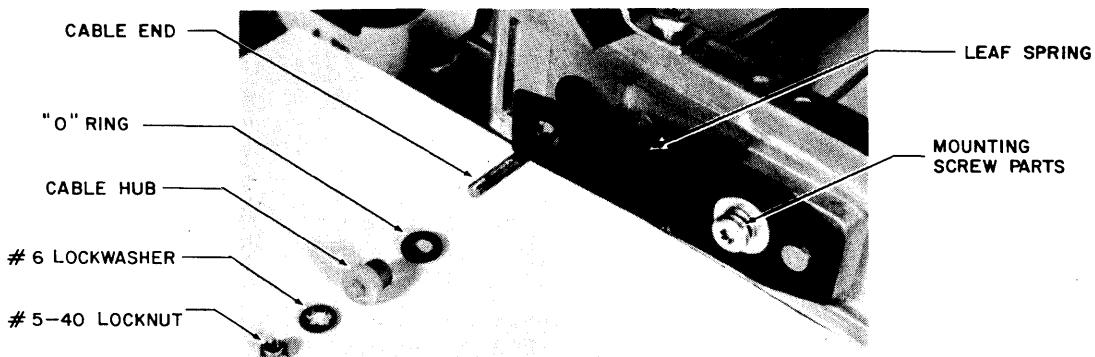

Figure 5-37 CARRIAGE DRIVE CABLE TENSION SPRING ASSEMBLY
- # Assemble the following items on the free end of this second cable shank as it protrudes out beyond the side of the frame, in the order listed in Figure 5-37. Put the locknut on finger tight only and avoid twisting the cable.
Refer to Figure 5-37.